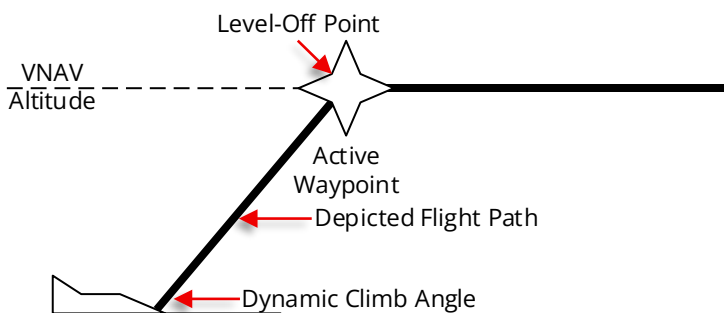

Figure 6-7: Highway in the Sky (Geo-Referenced Forward)
- 2) The dynamic climb angle emanating from the next waypoint VNAV altitude (geo-referenced forward) (Figure 6-7); or